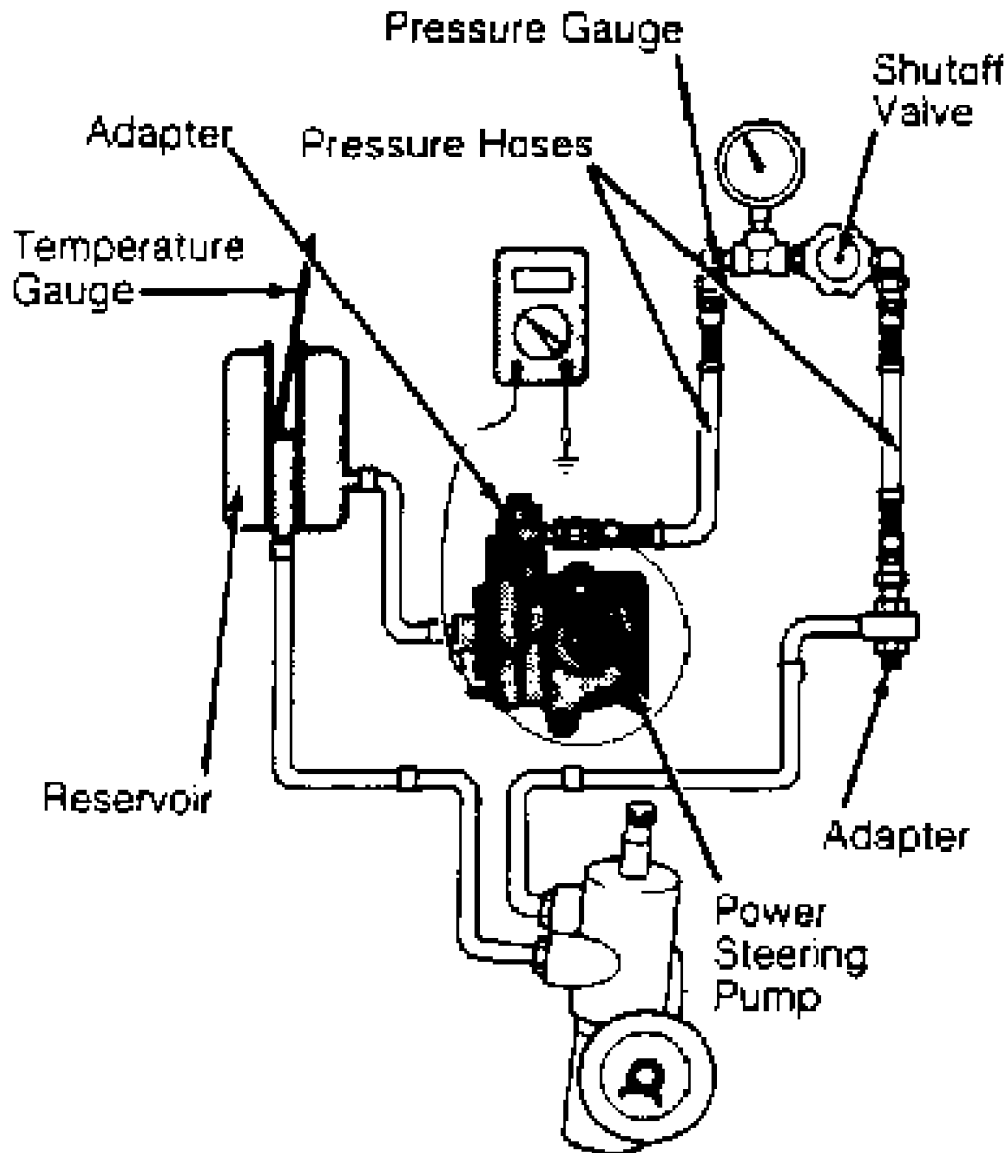

Fig. 13: Connecting Pressure Gauge Shutoff Valve Assembly
1) Disconnect pressure hose from power steering pump. Connect in-line a pressure gauge and hoses capable of handling 300 psi (21 kg/cm²). Also connect a shut-off valve in-line with pressure gauge. See Fig. 13.